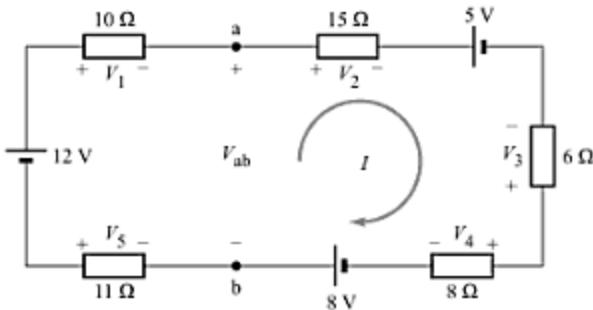

Fig. A-61
- A-13. Find the current and unknown voltages in the circuit shown in Fig. A-61.
- A-14. Find the voltage  $V_{ab}$  in the circuit shown in Fig. A-61.